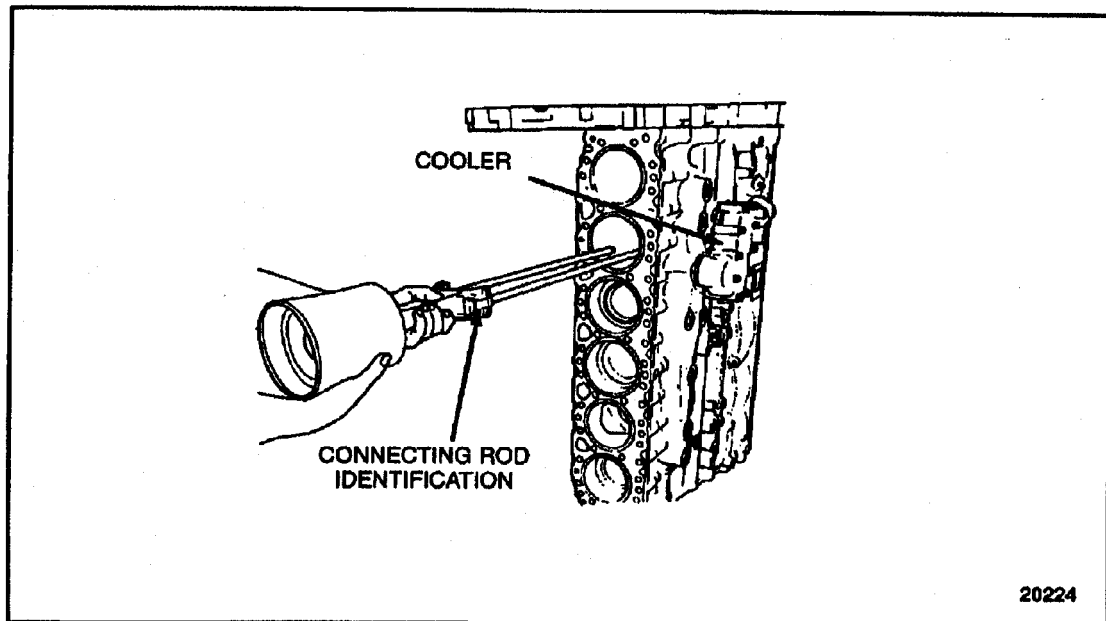

Figure 1-267 Connecting Rod Indexing
14. With the crankshaft throw in the bottom position, ensure the number on the connecting rod is towards the cooler side of the engine, place the ring compressor and the piston and connecting rod assembly over the cylinder where it is to be installed. See Figure 1-267.